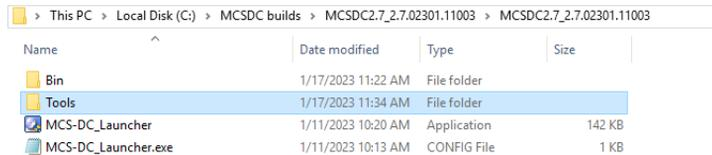

*Figure 266. WMI query - OS caption*
8. Double click on the object **Win32\_OperatingSystem=@**. Properties of this object will be listed as shown in Figure 266. For example, the property 'Caption' has a value 'Microsoft Windows 10 Enterprise'. The WMI query for this property is successful.